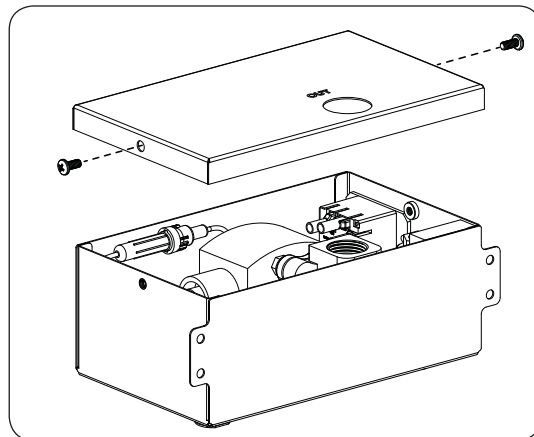

Fig. 46-1 Remove access panel of valve box
3. Use a Phillips screwdriver to remove the access panel of the valve box (see Fig. 46-1).